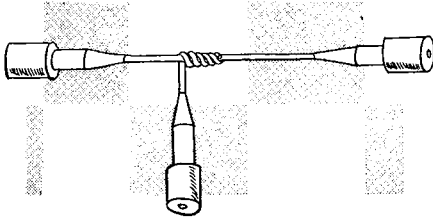

Fig. 20.
3. Wrap the wires as shown in figure 20.